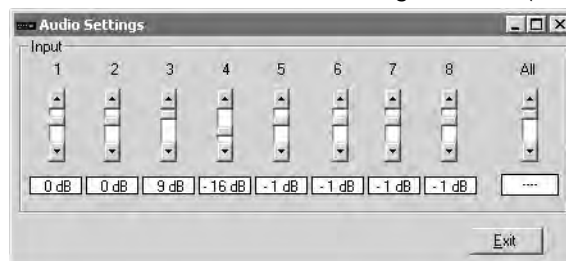

Figure 34. Control Program Audio Settings Window
6. If desired, on the task bar, click **Tools > Audio Settings** to set each input's audio level or attenuation in the Audio Settings window (see figure 34).